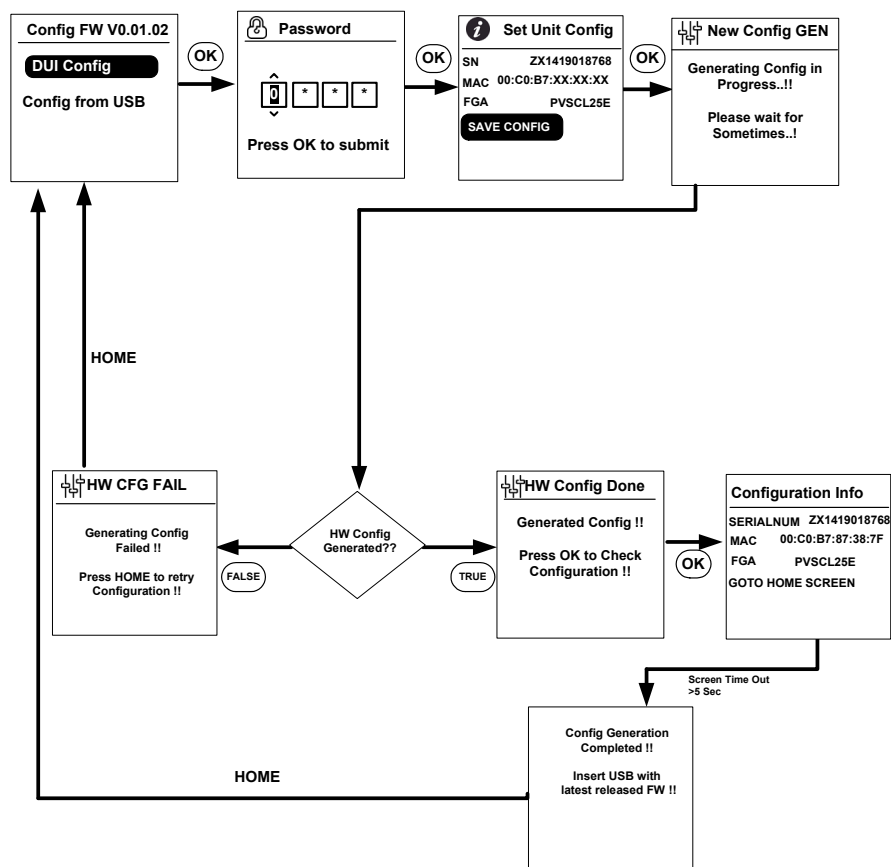

Figure 1-15 Configuration Info screen
- n) Once hardware configuration is generated user can check the same details on **Configuration Info** screen as shown in Figure 1-15 on page 1–12.